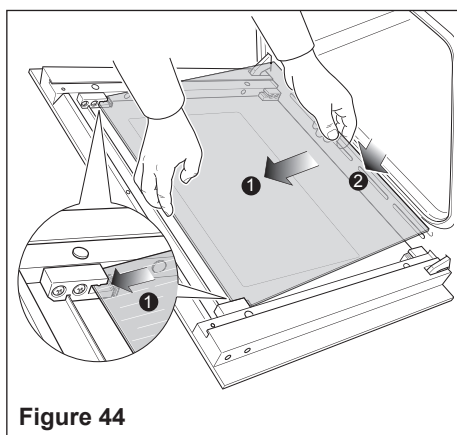
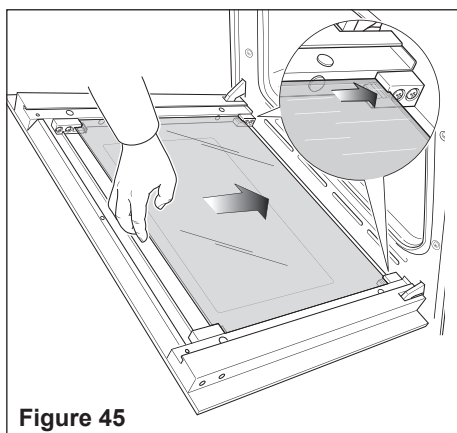

Figure 44
Figure 45
- Gently insert the top edge of the pane into the top clamps (arrow 1 in fig. 44), then lower the pane and insert the bottom edge into the bottom clamps (arrow 2 in fig. 44); and then slide the pane into position (fig. 45).